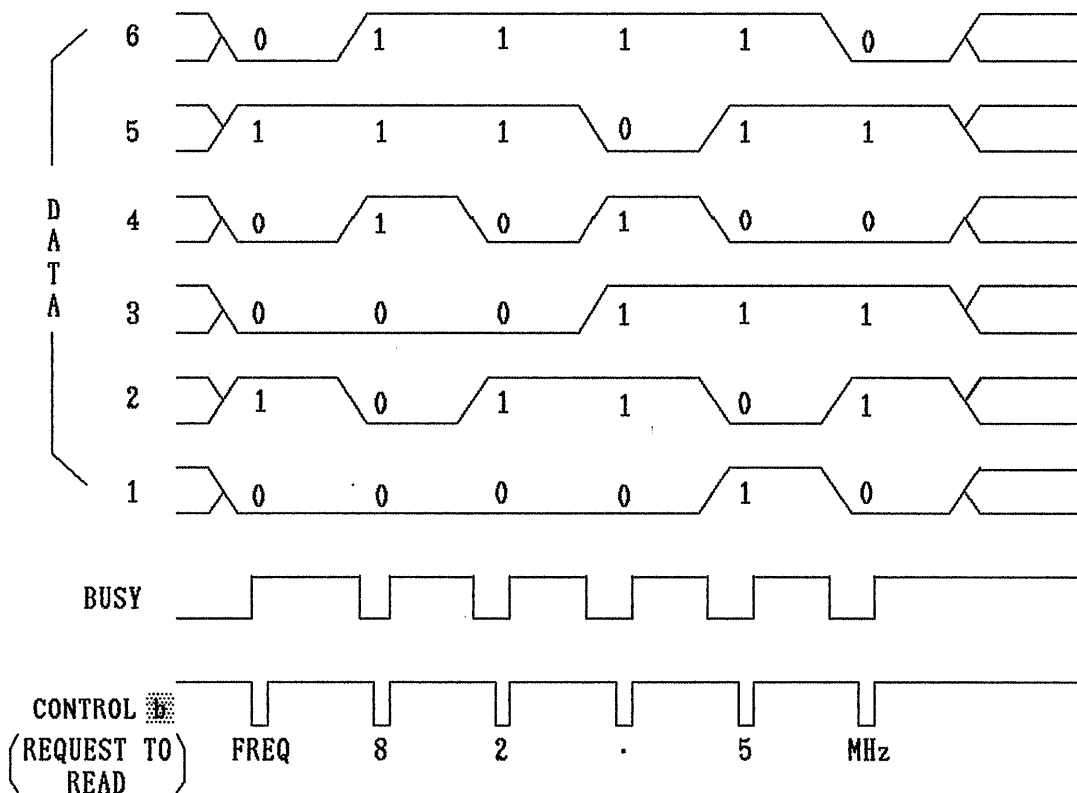

Figure 5-3
- 3) Set the data "82." according to the code table and send CONTROL  signal as shown in Figure 5-3.